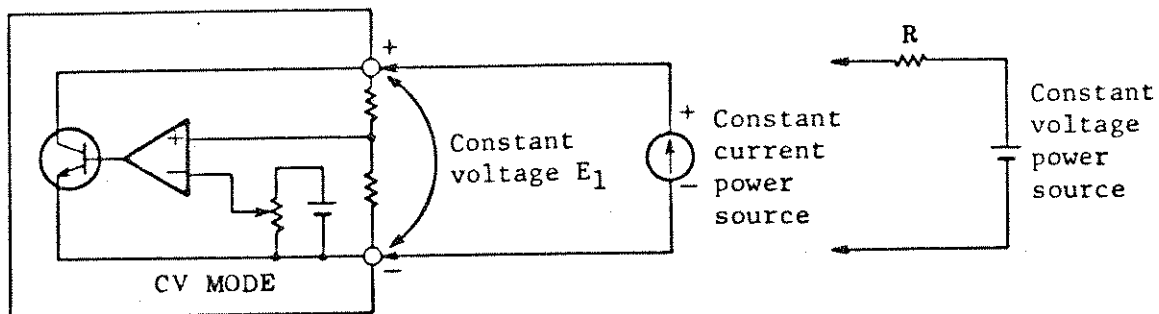

Figure 2-9-1
1. This mode is available by applying a constant current power source to the DC INPUT terminals with the shunt regulator method. This mode is used mainly for tests and adjustments of the current limit characteristics of a DC constant voltage stabilizing power source having power capacity of 150 W or less. Fig. 2-9-1 shows the basic circuit diagram.
As shown by the Fig. 2-9-1, connecting a constant voltage power source, to which a constant current power source or an impedance is connected in series, a shunt regulator is constituted. The value of the constant voltage E_1 may be varied within the range of 5 V - 60 V DC with use of the CV dial. A yellow LED will be lit during the CV mode. The operating method for the constant voltage mode is explained below: